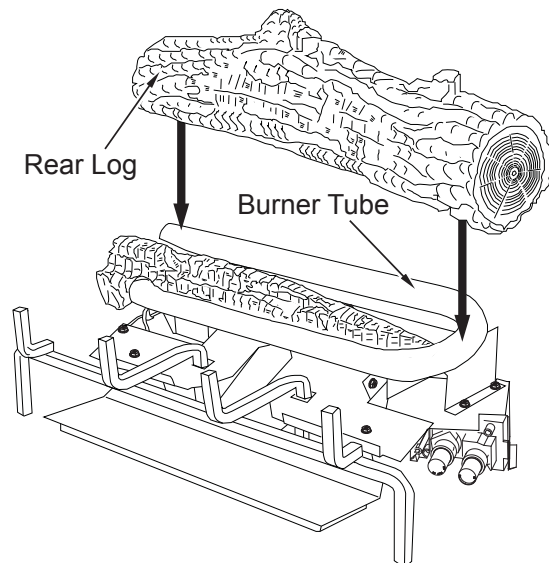

Figure 35 - Installing Rear Log
2. Place the rear log on the base assembly as shown in **Figure 35**. The rear log has grooves in the bottom which will allow the log to sit on the burner and behind the bottom ember log.